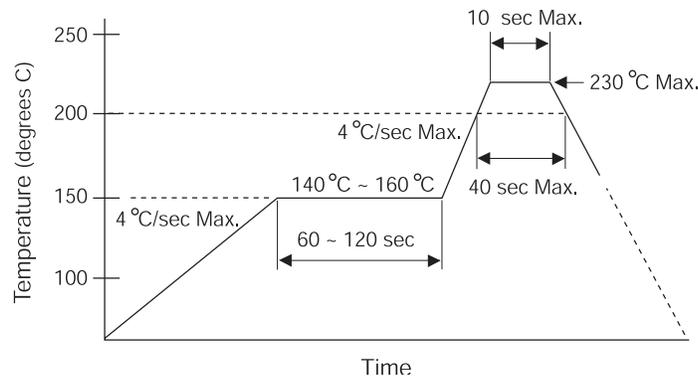

Figure 7. Temperature Profile for the Top Surface
- The temperature profile at the top surface of the ZHX3403 transceiver, shown in Figure 7, is recommended.